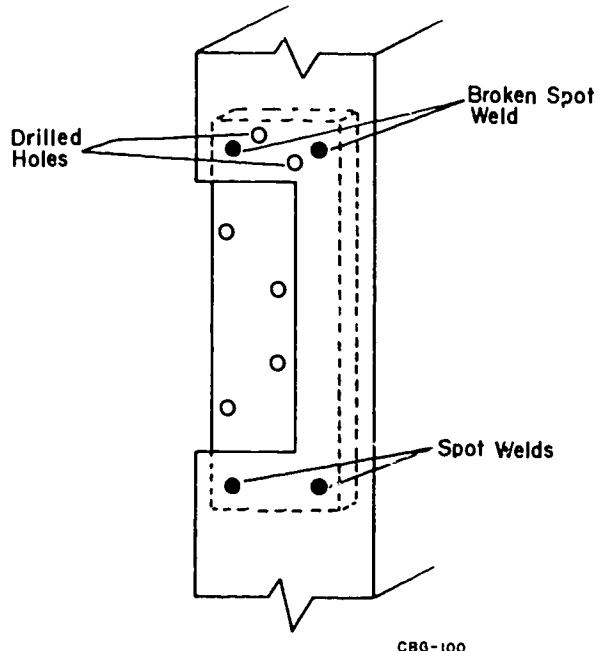

Figure 4-15. Hinge reinforcement plate.
**Maintenance and Repair of Personnel Doors.** Personnel doors require very little maintenance when installed properly. The main problems you will encounter will involve the door hinges, which, in turn, affect the fit of the door into its casing. Typically, hinges are secured with machine screws to hinge reinforcement plates as shown in figure 4-15 on both the door and casing. Over a period of time these screws may work loose, or the spot welds securing the plate to the door or casing break. A broken door closer may allow the door to be opened violently by the wind, which can break these plates or screws. A door that is not hung properly can cause the hinge to bind and cause enough pressure to damage the plates or screws. A hinge-bound door is difficult to close, and springs open. Occasionally the hinge reinforcement plate is not mounted flush with the inside of the jams or becomes twisted, which causes excess pressure on hinge components.
If the spot welds holding the plate in position are broken, you must re-weld it. Because the hinge mounts into the recessed area, the best way to repair it is to drill holes in the casing as shown in figure 4-15 and re-weld through these holes. The welds may then be ground flush, and the hinges re-installed. The tool used to straighten the hinges may be